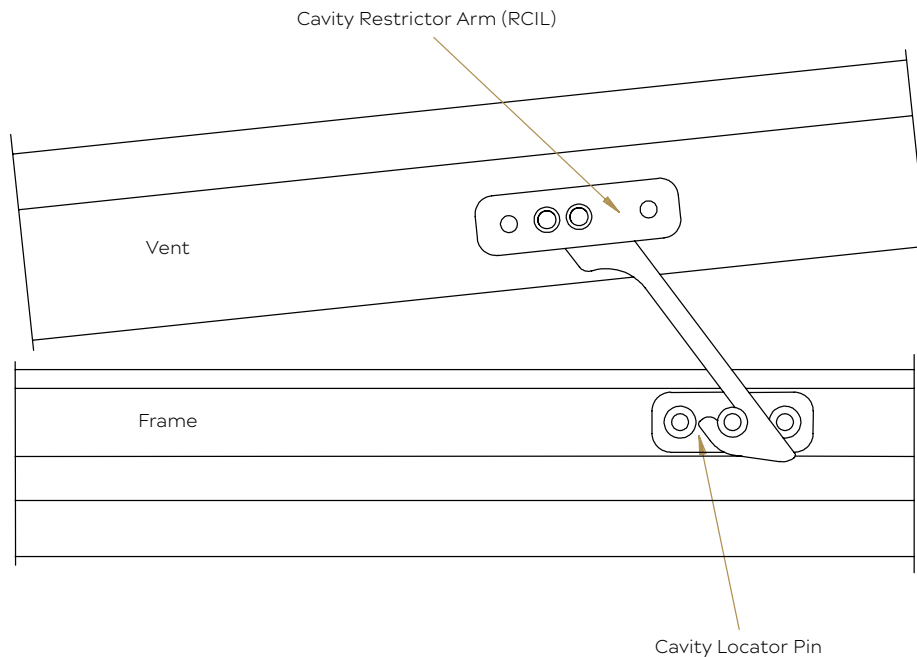

Fig. 2
- 3.1.10** Position the Cavity Restrictor Arm RC1L/RC1R preferably in the hinge location channel on the vent with the hook pointing on an angle towards the vent opening. See **Fig. 2**.
- 3.1.13** Position the Cavity Location Pin SC1, SC2 or SC3 preferably in the hinge location channel on the frame so as the vent is opened the Cavity Location Pin engages in the hook of the Cavity Restrictor Arm. See **Fig. 2**.